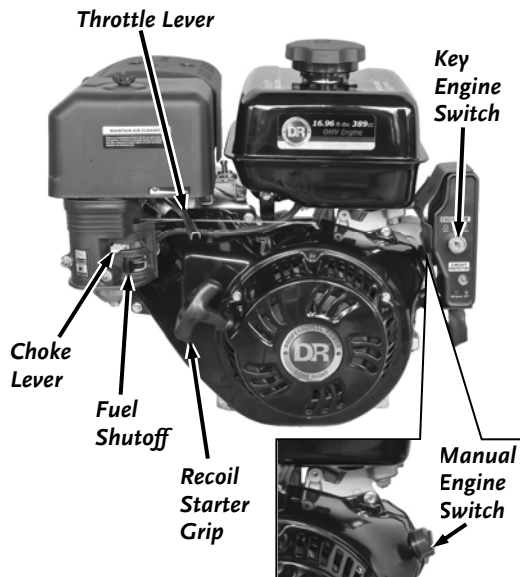

Figure 61
1. When starting a cold Engine; push the Choke Control lever to the left (CHOKE) and the Throttle Control lever to the far right (rabbit position) (**Figure 61**). If re-starting a warm Engine, leave the Choke in the (RUN) position.